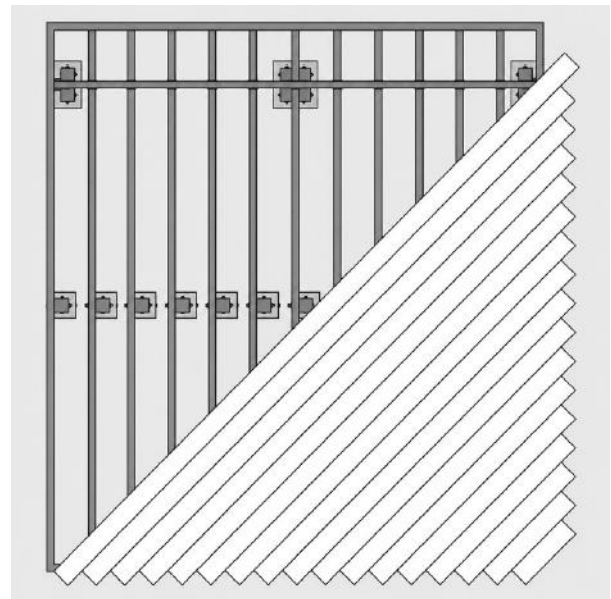

FIG. 12 – BOARDS LAID PROGRESSIVELY TOWARD THE CORNERS
- 02 After laying the central board, progressively place each board outward toward the subframe corners (fig. 12): board offcuts can be kept and used for finishing the corners; allow a slight overhang over the edge of the substructure.